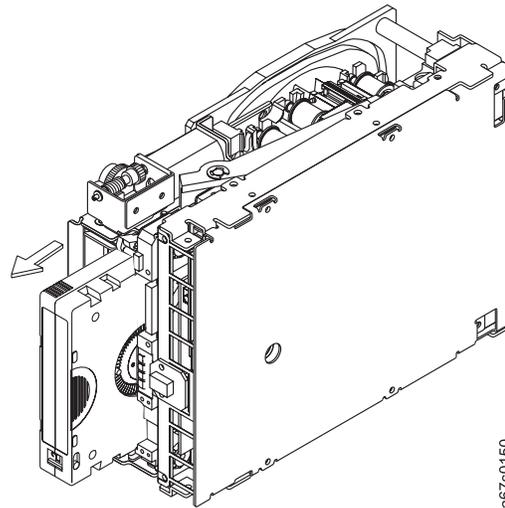

Figure 24. Rotating the loader motor gear until the cartridge ejects
14. Rotate the loader motor gear counterclockwise until you feel resistance and the cartridge rises and ejects (see Figure 24).